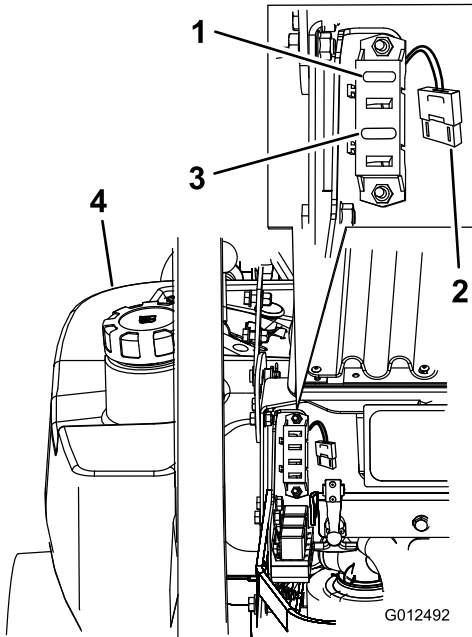

Figure 59
1. Unlatch the engine hood and raise the engine hood to gain access to fuse holder (Figure 59).
3. Install a new fuse (Figure 59).